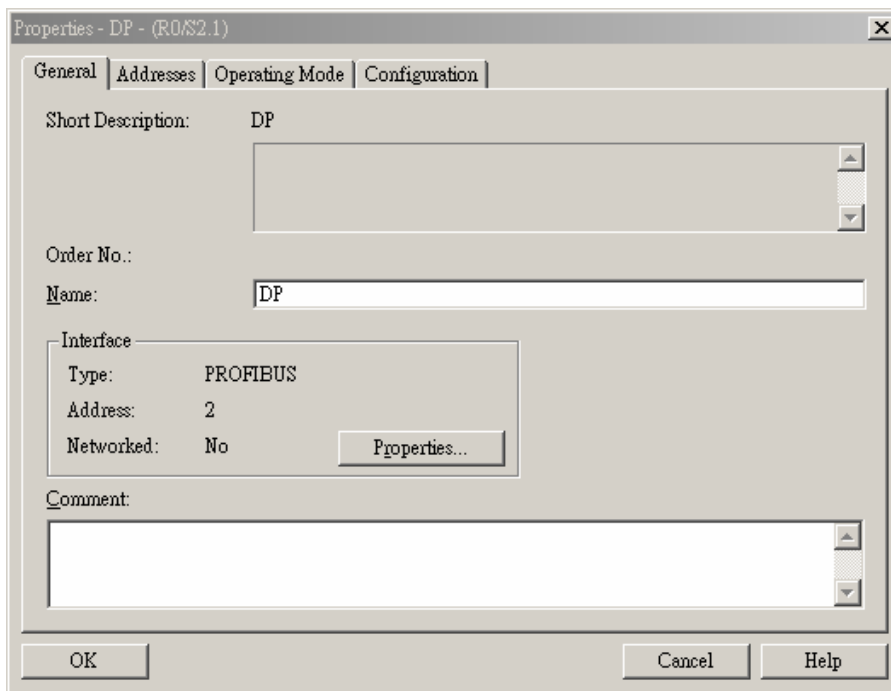

Figure 10-11
3. In the new dialog box, click “Properties” to open another dialog box, as Figure 10-11.